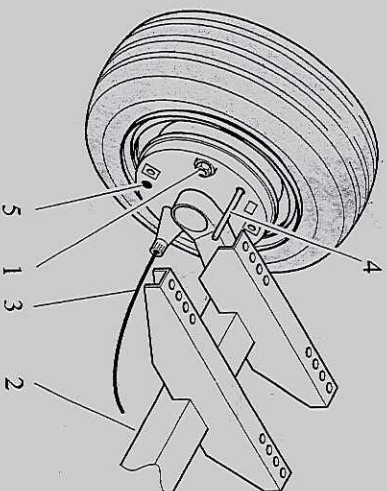

Fig. 5.5 Brake shoe adjustment
Lift and support the compressor. Make sure that all brakes are off (overrun/brake and hand brake lever). The brake cables must be free from tension. Lock the swivel cams of the wheel brake from the outside by means of a pin Ø 4 mm (4) through the hole as shown in Fig. 5.5.